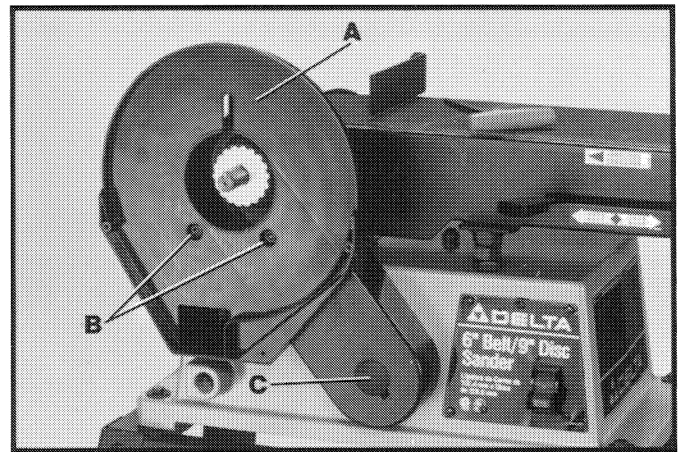

Fig. 8
Assemble belt and pulley guard (A) Fig. 8, to the machine using two M6 x 55mm hex socket head screws (B), lockwashers and flat washers as shown. **NOTE:** Make certain plug (C) is installed into guard.